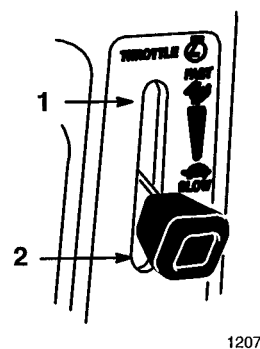

Figure 4
6. Move the throttle lever to “FAST” (Fig. 4).
8. After the engine starts, move the choke lever to “OFF” and slowly move the throttle lever to “FAST” (Fig. 4). If the engine stalls or hesitates, move the choke lever back to “ON” for a few seconds. Then move the throttle lever to “FAST.” Repeat this as required.
1. Move the throttle lever to “SLOW” (Fig. 4).